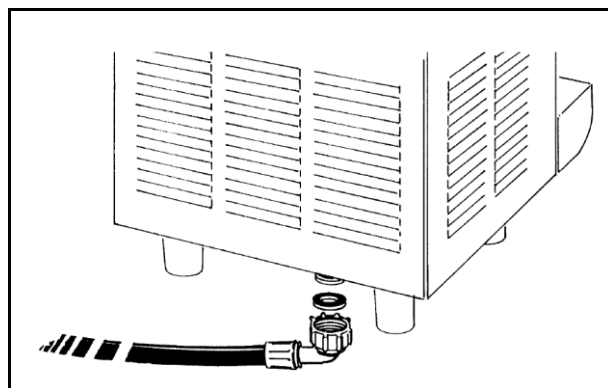

Fig. 16
- Screw the water pipe in securely, but without exerting excessive force, to avoid the risk of cracking the fittings, the threaded ring nut at the water connection outlet located at the rear of the appliance (Fig. 16).